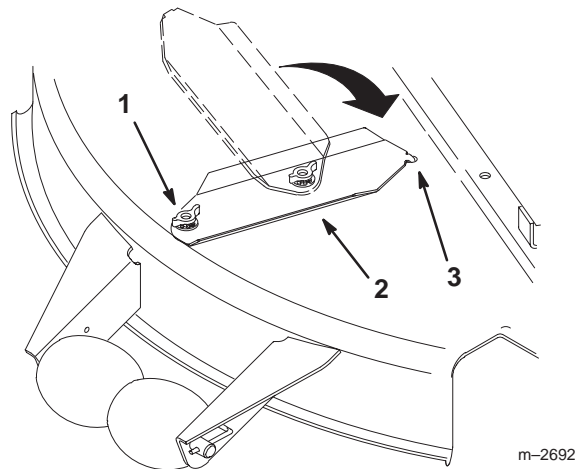

Figure 30
7. Slide the wing nut and front cover shaft to the "OPEN" position on the deck to swing the front cover to the side discharge position (Fig. 30).
8. Insert the tab on the end of the slot cover back into the slot in the deck (180 degrees from its original position), then tighten the wing nut on the front cover shaft (Fig. 30).